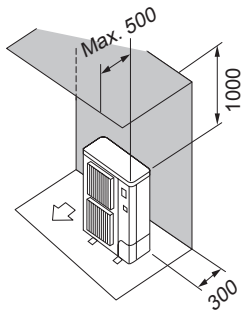

Fig. 4-7
- ② Obstacles at rear and above only (Fig. 4-7)